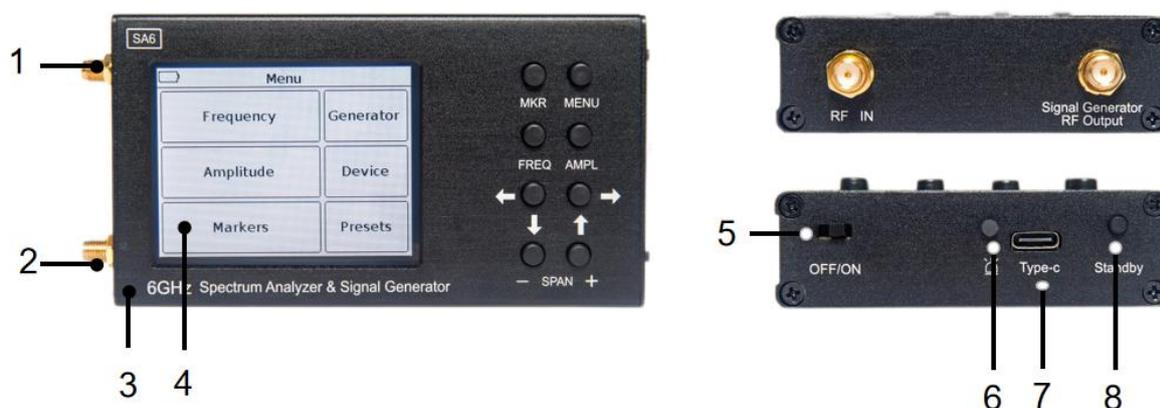

Figure 5.1 External view of the device
5.1 The composition of the device is shown in Figure 5.1